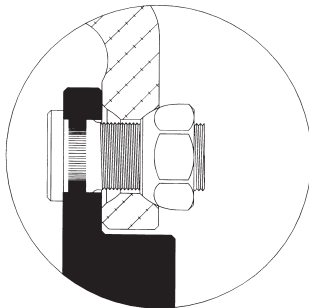

Figure 15
- For 1 $\frac{3}{8}$ " -16 studs, use standard heavy truck steel disc wheel front or outer nuts. (See Figure 15.) If you are making a changeover from steel wheels, longer studs may be necessary to ensure that the stud is at least flush or extends through the nut.
- The outer cap nuts used on aluminum wheels are the same as shown in Figure 15 on page 46 (1¹/₈" - 16 thread).